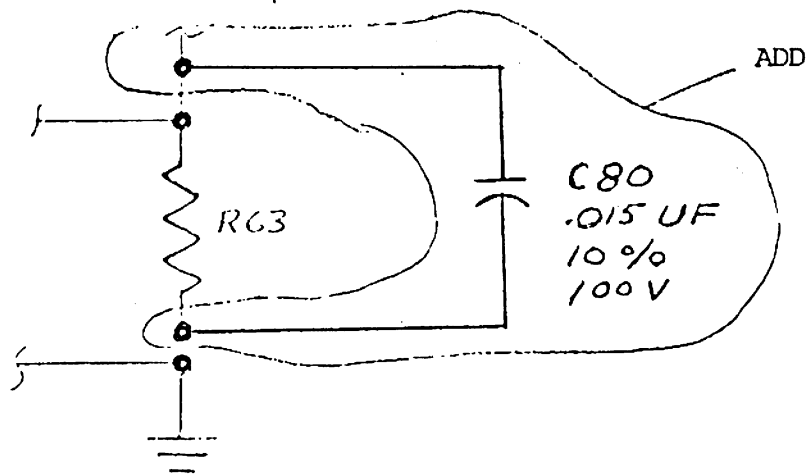

FIGURE 3.
1. On sheet 5 of schematic add capacitors as shown in Figure 3.